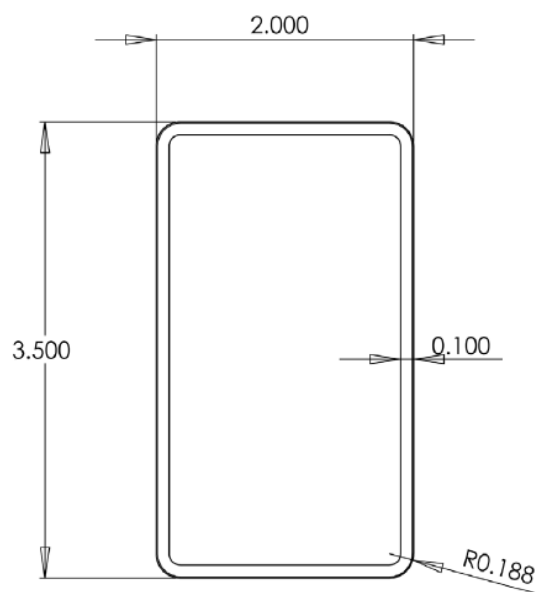

FIGURE 4 – VINYL 2" X 3.5" RAIL
3.1.2. Top rails in the *Baltimore, Windsor, Kenmore, and Manchester* series are a 2" wide by 3.5" tall rectangular profile with a wall thickness of 0.10". See Figure 4.
3.1.3. Bottom rails in all systems are a 2" wide by 3.5" tall rectangular profile. See Figure 4.